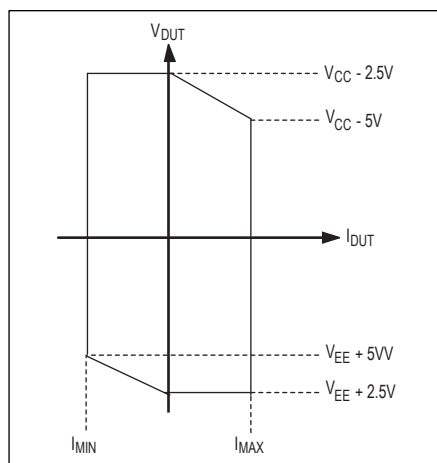

Figure 1. Output Swing
2. The voltage drop across the sense resistor and internal circuitry in series with the sense resistor. At full current, the combined voltage drop is 2.5V: 1V across the resistor and 1.5V across the switches. This voltage is not all in addition to the overhead requirement. There is some overlap of the two effects; see **Figure 1**.
Neglecting the effects of factors 3 and 4, the output capabilities of the DPS are demonstrated by **Figure 1**.
Figure 1 shows that, for zero DUT current, the DUT voltage swing is from $(V_{EE} + 2.5V)$ to $(V_{CC} - 2.5V)$. For positive DUT currents, the maximum voltage drops off linearly until it reaches $V_{CC} - 5V$ at full current. Similarly, for negative DUT currents, the magnitude of the negative voltage drops off linearly until it reaches $V_{EE} + 5V$. When the DPS is driving more than $\pm 200mA$ output current, the power dissipated by the DPS must be limited to below the power limit of the package (see the *Absolute Maximum Ratings* and *Note 2*). For example, when the DPS is driving $\pm 1200mA$ in range A, the V_{CC} supply must not exceed +12V and the V_{EE} supply must not exceed -12V. When the DPS is sourcing current, the DUT node must not be driven below 0V. When the DPS is sinking current, the DUT node must not be driven above 0V (two-quadrant operation). When operating below $\pm 1200mA$, four-quadrant operation may be possible depending on the power dissipation of the DPS. Power dissipation analysis must consider variations in the power-supply voltage and the voltage difference between the DUT ground and the DPS AGND (factors 3 and 4).